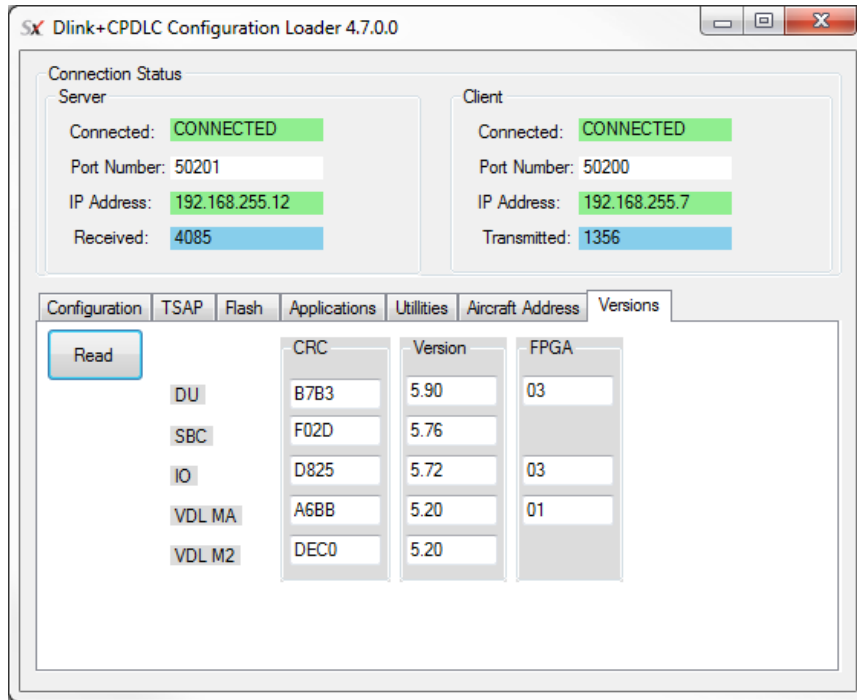

Figure 3 – Versions Tab
- (10) Go to the Versions tab of the Configuration loader and click Read. The programming has been successful if all numbers in the CRC, Version, and FPGA columns match Figure 3.
- (6) Press down arrow LSK (right of display).
- (7) Confirm that CFG PART NO agrees with part number included in filename of correct configuration file for aircraft.
- (8) Press down arrow LSK (right of display).
- (9) Confirm that Version values agree with Figure 3 – Versions Tab.
- (10) Press USER key, MAINT LSK, CONFIG LSK, USER EDIT LSK. Enter using Dlink+ keyboard, "USER00". Press ENTER key (not RETURN).
- (11) Confirm AC TYPE is the expected model, CUSTOMER is correct, and VERSION matches the v number included in the filename of the correct configuration file for the aircraft.
- (12) If the unit passes the test, proceed to D. Return to Service.